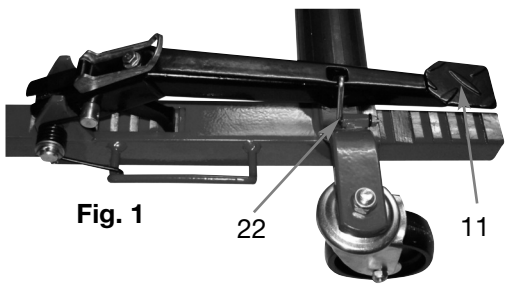

Fig. 1
2. Open the hook (22) to release the foot pedal (11) (**Fig. 1**).